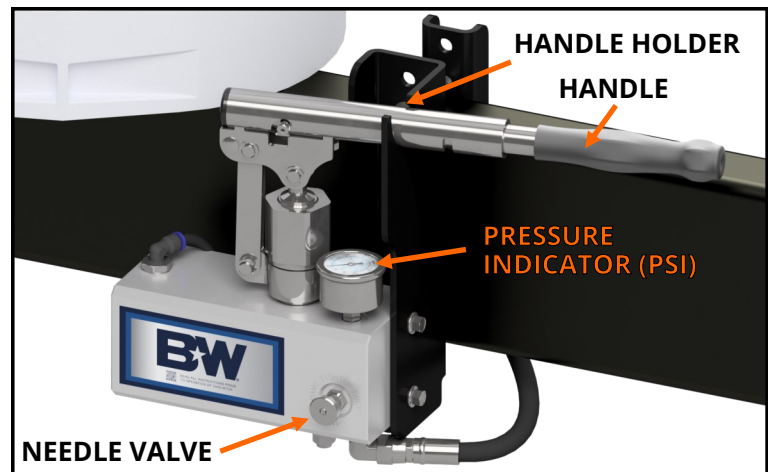

FIGURE J2: View of the driver side of A-frame
- Add pressure to the hydraulic cylinder.** Close the needle valve. Pull the pump handle out of the handle holder and push in then twist counter clockwise to extend it. Pump the handle of the hydraulic pump to restore load from the rear tires to the front tires, **see Figure J2**. Decrease the height of the front wheel well until it has been lowered to the target measurement.